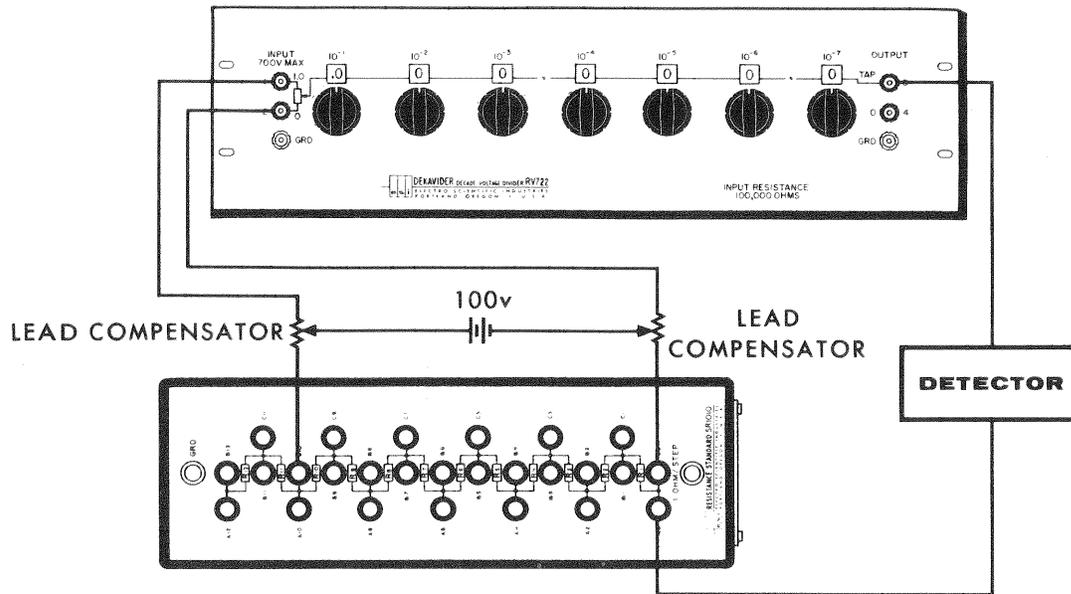

Figure 3.3A
- 1) Connect the equipment as shown in Figure 3.3A to determine the linearity deviation of the first decade of the RV 722.